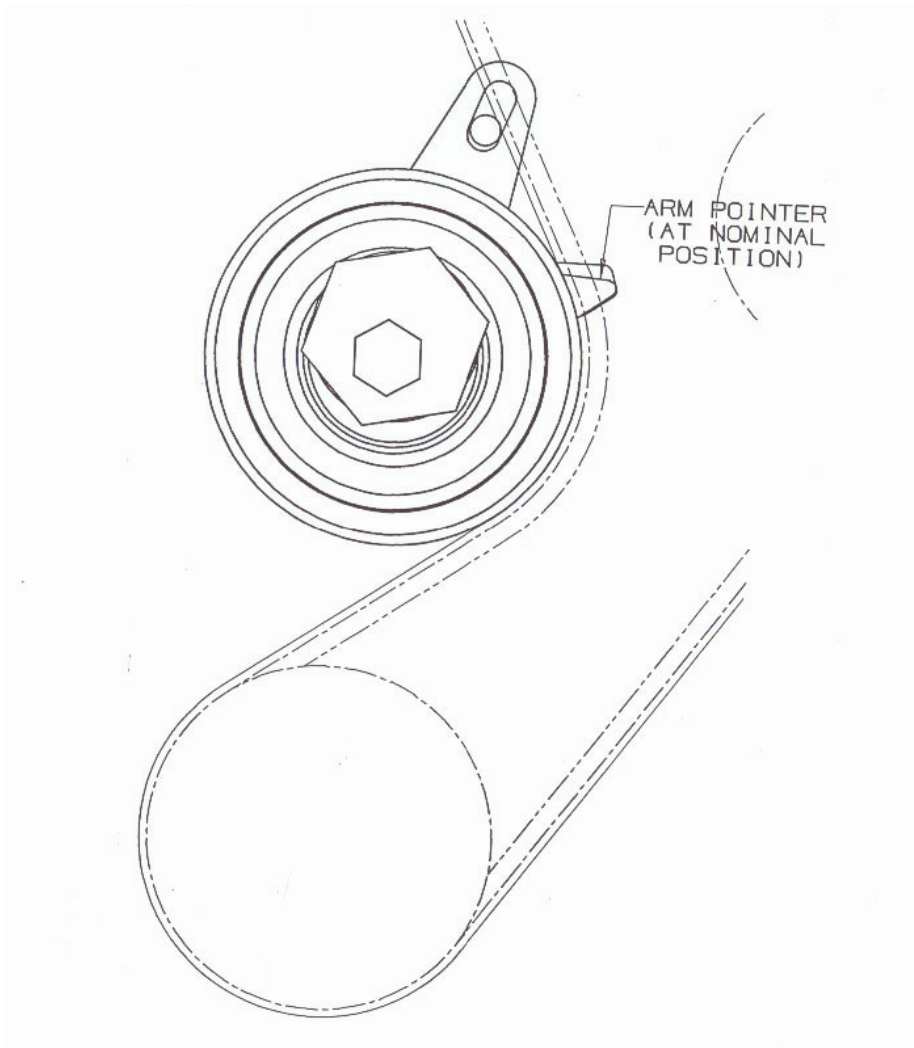

Figure 5: Verification of Tensioner Installation
- If the Arm Pointer still aligns with the Nominal Position Notch at their lower edges, the installation is complete (See Figure 5).